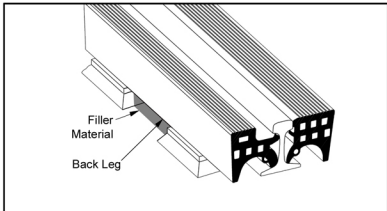

Figure 5
- 6 To isolate rail fasteners from concrete pour, fill area between mounting plates with styrofoam (or similar material). Leave the bottom of the back legs of the rubber Interface exposed so that they are supported by the finished concrete. (Fig. 5)